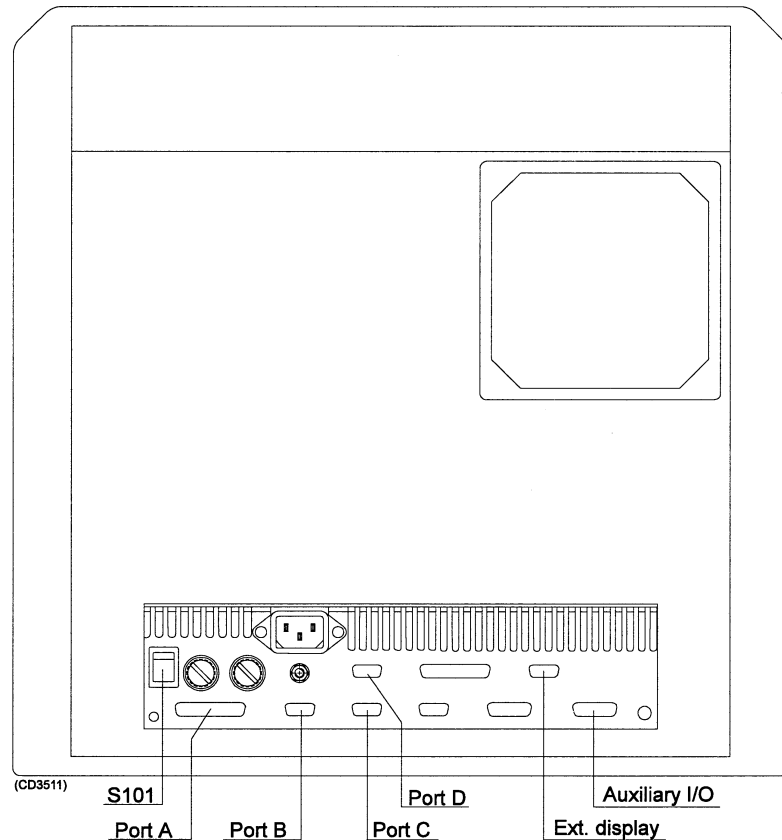

Figure 1 The rear side of the Sonar Control Unit
- Set the switch S101 at the rear of the Sonar Control Unit to OFF position. For location of the switch, refer to figure 1.